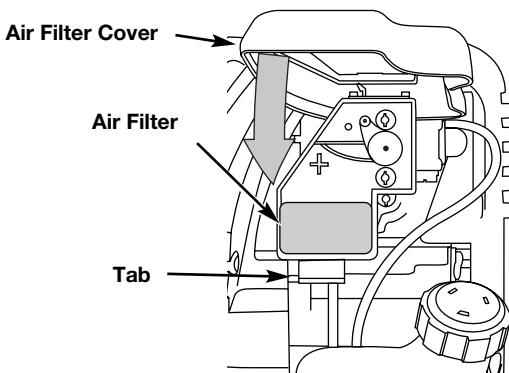

Fig. 31
8. Swing the cover down until the tab on the air filter backplate snaps into place in the slot on the air filter cover (Fig. 31).
1. Stop the engine and allow it to cool. Remove the six (6) screws on the back of the engine cover with a Flat-head or T-25 Torx screwdriver (Fig. 31).